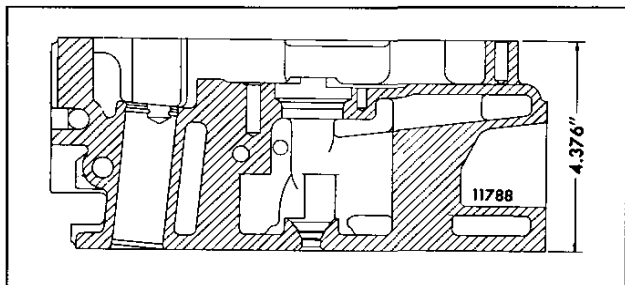

Fig. 4 - Minimum Distance Between Top and Bottom Faces of Cylinder Head
- c. If the head is to be refaced, remove the injector tubes prior to machining. Do not remove more metal from the fire deck of any cylinder head below the minimum distance of 4.376" (Fig. 4).